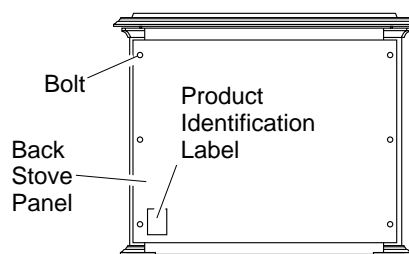

Figure 6 - Removing Back Panel
4. Remove back panel from stove and discard (see Figure 6). Use an adjustable wrench or a 10 mm socket. Remove six (6) bolts and washers. Keep bolts and washers to attach rear cover.